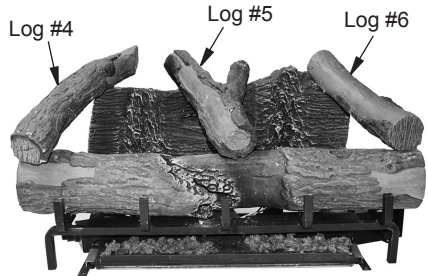

Figure 21 - Installing Logs #4, #5 and #6
3. Place log #4, log #5 and log #6 as shown in Figure 21.